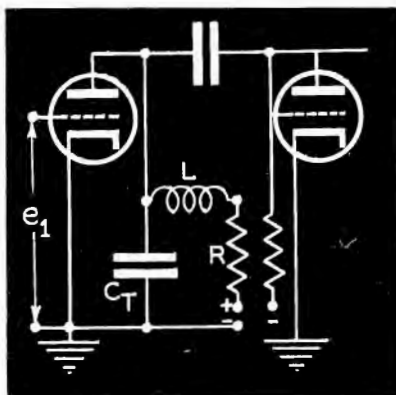
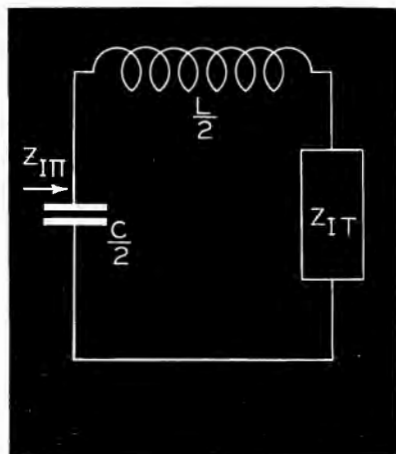
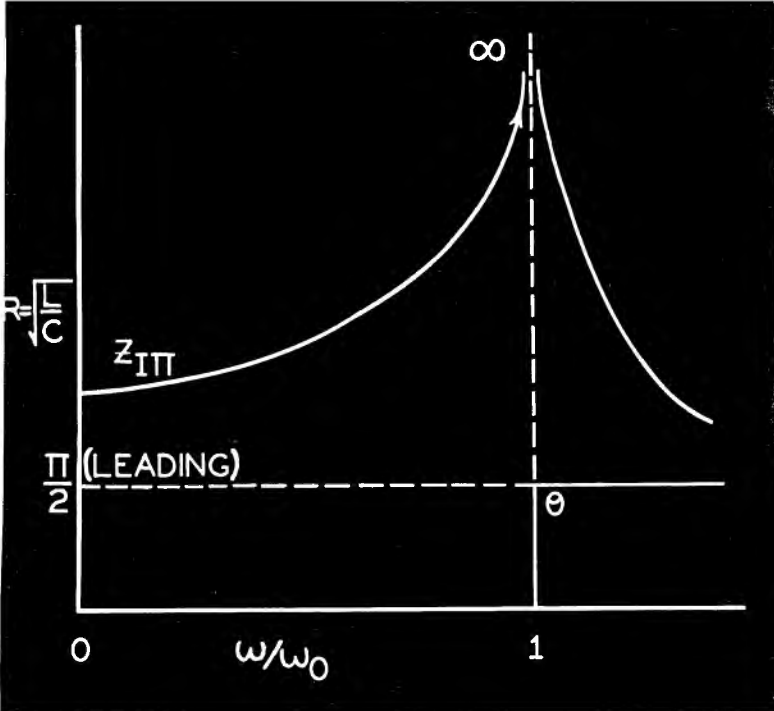

Figure 5
Figure 6
Figure 7
Figs. 5 and 6
In Fig. 5 (extreme left) appears life expectancy data of a pure tungsten filament as a function of filament voltage and minimum permissible filament voltage. Fig. 6 shows the effect of voltage fluctuation on allowable plate current and life expectancy of pure tungsten filament. Both of these curves were calculated on a basis of square wave fluctuation.
In order to maintain a high value for Z_L over as wide a frequency range as possible consistent with linearity of phase shift, various more complicated circuits are employed. A very useful method of deriving a suitable circuit configuration is based on filter theory. In Figure 5 is shown a simple modification of the resistance coupling stage shown in Figure 3A, namely, the introduction of an inductance L in series with the load resistance here denoted by R . We may regard the circuit as a parallel resonant LC circuit sufficiently damped by R to maintain a relatively constant impedance over a wide band of frequencies. However, the circuit is purposely drawn in such manner as to suggest that it represents a half section constant k filter terminated in what can be its nominal image impedance. Accordingly, it will be of interest to study the behavior of such a filter section when terminated in its true image impedance and viewed from its mid shunt terminals. (Figure 6).
We note in passing that a half section due to its asymmetry has a different image impedance when viewed from either pair of terminals. Thus (Figure 6) on the left hand side it has the image impedance of a π section, whereas, on the right hand side it has the image impedance of a T section. Either image impedance may be found by taking the square root of the product of the open circuit and short circuit measurements or calculations made from
If Z_{IT} be plotted against the frequency ratio (ω/ω_0) , the plot will be as in Figure 7. As ω/ω_0 approaches unity, the denominator of Eq. (6) approaches zero and consequently Z_{IT} approaches infinity. For values of ω/ω_0 greater than unity Z_{IT} becomes a pure capacitive reactance and decreases asymptotically to zero. The interesting feature is that for values of ω/ω_0 less than unity Z_{IT} is a pure resistance, which, however, is a function of frequency. Such an impedance is not physically realizable and arises in this example because of the assumption that this half section is terminated at its right hand end (Figure 6) in the true image impedance of a T section. The latter image impedance is not physically realizable since one suggested form for it is an infinite succession of T sections in cascade. However, were such a termination physically available it would not be of any use as shown since the gain (which would be simply $G_m Z_{IT}$) would rise to infinity (in the case of a true constant current generator) as ω/ω_0 approached unity. In practice, the gain would rise to a peak instead of being flat over a band of frequencies and then falling off gradually. It is therefore evident that a constant k half section filter is not in itself desirable unless suitably modified. A general method of modification is due to Percival² and is given in the next sec-